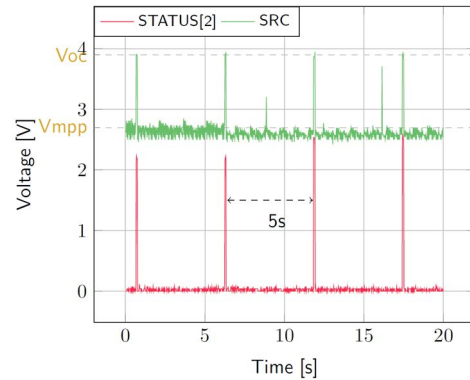

Figure 3: **SRC** and **STATUS[2]** while energy is extracted from **SRC** (**BATT** under  $V_{OVCH}$ )
**SRC**: Regulated at  $V_{mpp}$ , which is a voltage equal to the open-circuit voltage ( $V_{oc}$ ) times the MPP ratio defined in Table 4.  $V_{src}$  equals  $V_{oc}$  during MPP evaluation (see Figure 3). Note that  $V_{src}$  must be higher than 380 mV to coldstart.
**STATUS[2]**: Asserted each time the AEM10941 performs a MPP evaluation (See Figure 3).